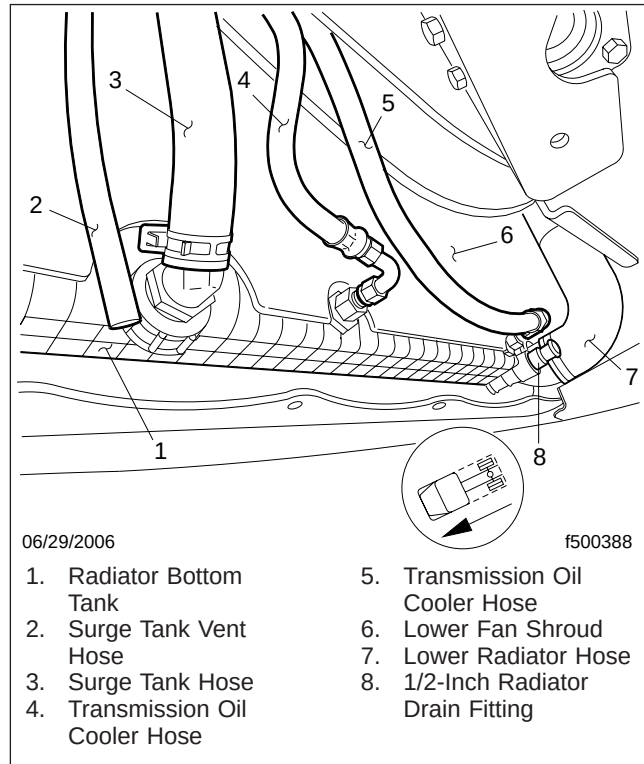

Fig. 12, Bottom of Installed Radiator
6. Connect a 1/2-inch hose to the drain fitting on the radiator (see Fig. 12) and place the other end in the container.
13. Place a container of at least 2-gallon (7.5-liter) capacity under the transmission oil cooler lines; see Fig. 12.